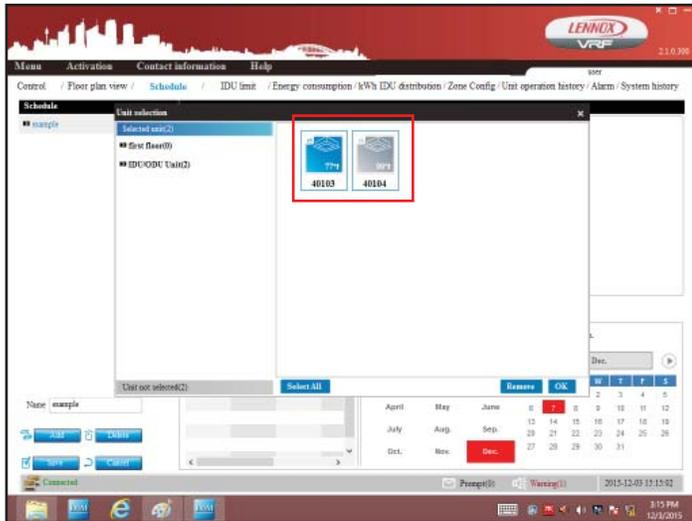

Figure 28. Select Indoor Units to Add
6. Tap each unit to be added to the schedule. A blue box displays around the indoor unit when it is selected. See figure 28.